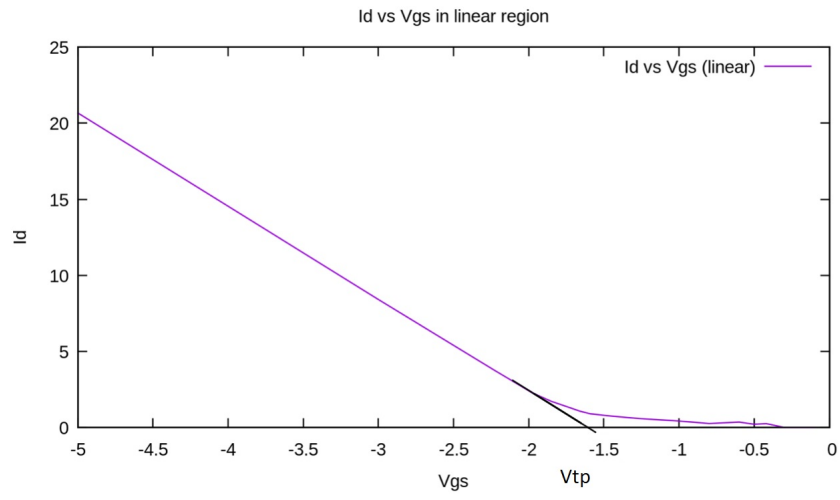

Figure 6:  $I_D V_{GS}$  plot of MOSFET in linear region
1. **Linear region:-** when  $V_{DS}$  is very small (around -100mV). In this region, the current  $I_D$  is given by Eq.3. For constant value of  $V_{DS}$ , we expect a linear relationship between  $I_D$  and  $V_{GS}$ . However, we get the characteristic as depicted in Fig. 6. For small values of  $V_{GS}$ , the  $V_{GS} - V_T$  difference is less than  $V_{DS}$ , and for this small region, the transistor is actually in saturation, while we expect it to be in linear region! Hence  $I_D$  varies non-linearly with  $V_{GS}$  for a small range of  $V_{GS}$ , after which it changes linearly. So we extrapolate the characteristic to estimate the value of threshold voltage as illustrated in Fig. 6.